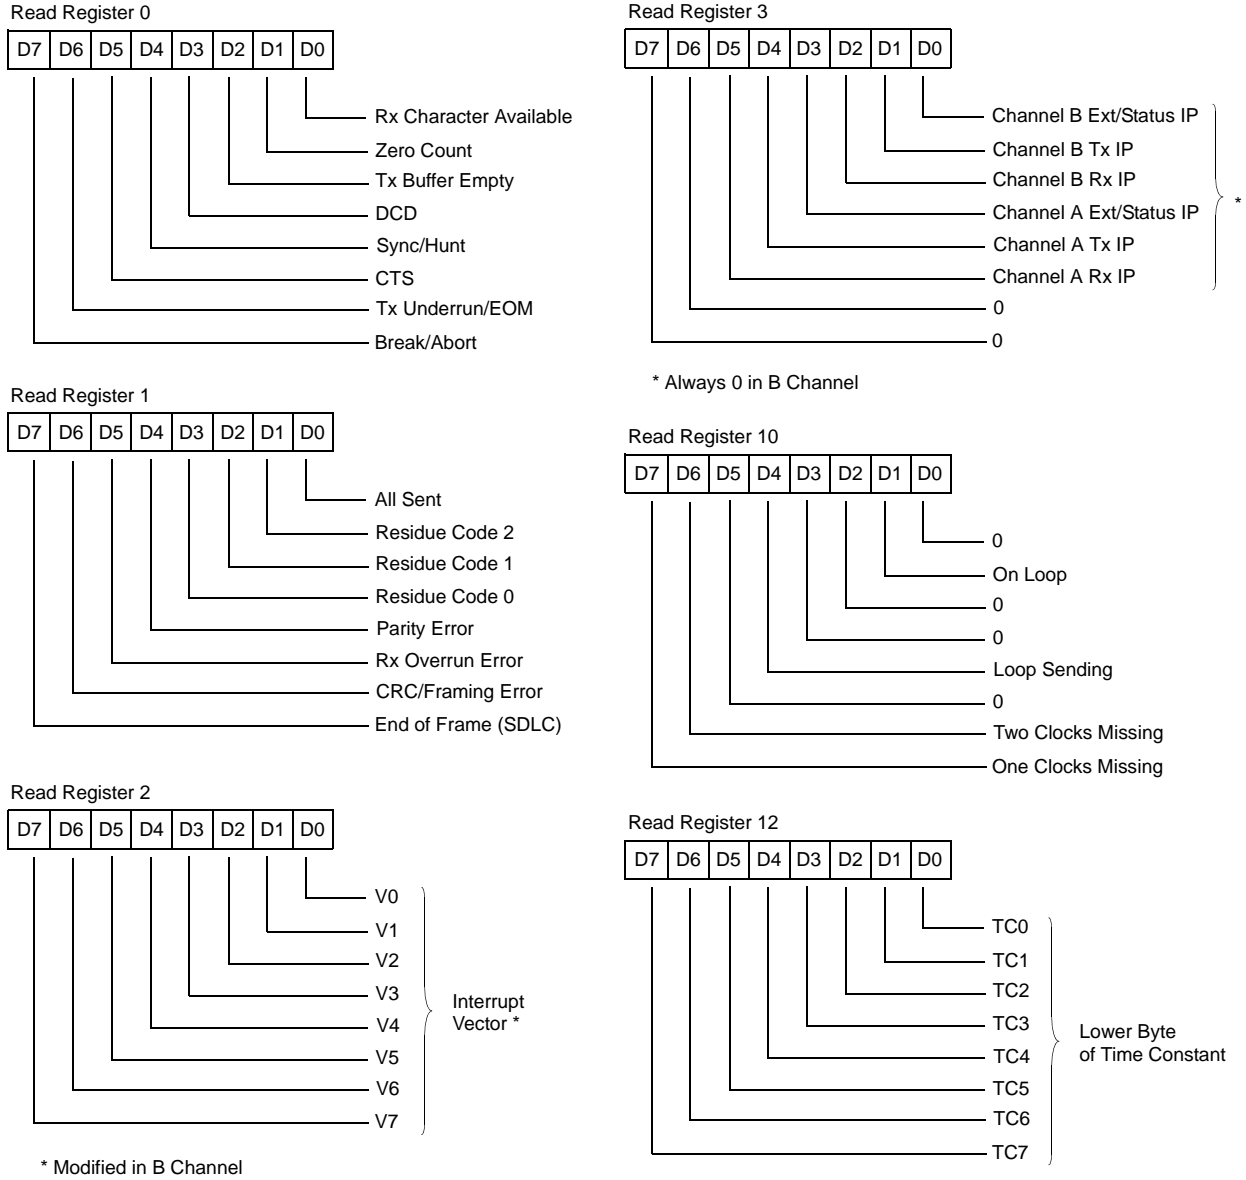

Figure 19. Read Register Bit Functions
The SCC contains ten read registers (eleven, counting the receive buffer (RR8) in each channel). Four of these can be read to obtain status information (RR0, RR1, RR10, and RR15). Two registers (RR12 and RR13) are read to learn the Baud Rate Generator time constant. RR2 contains either the unmodified interrupt vector (Channel A) or the vector modified by status information (Channel B). RR3 contains the Interrupt Pending (IP) bits (Channel A only; see Figure 19). RR6 and RR7 contain the information in the SDLC Frame Status FIFO, but is only read when WR15 D2 is set (see Figures 19 and 20).